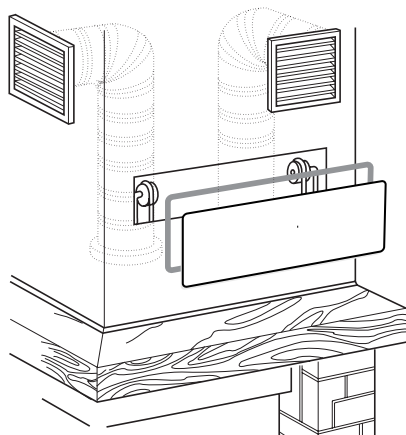

Fig. 5.9
5.9 CONTROCAPPA E PANNELLO ISPEZIONE (FIG. 5.9)
5.9 COUNTER-HOOD AND INSPECTION PANEL (FIG. 5.9)
5.9 GEGENHAUBE UND INSPEKTIONSPANEEL (ABB. 5.9)